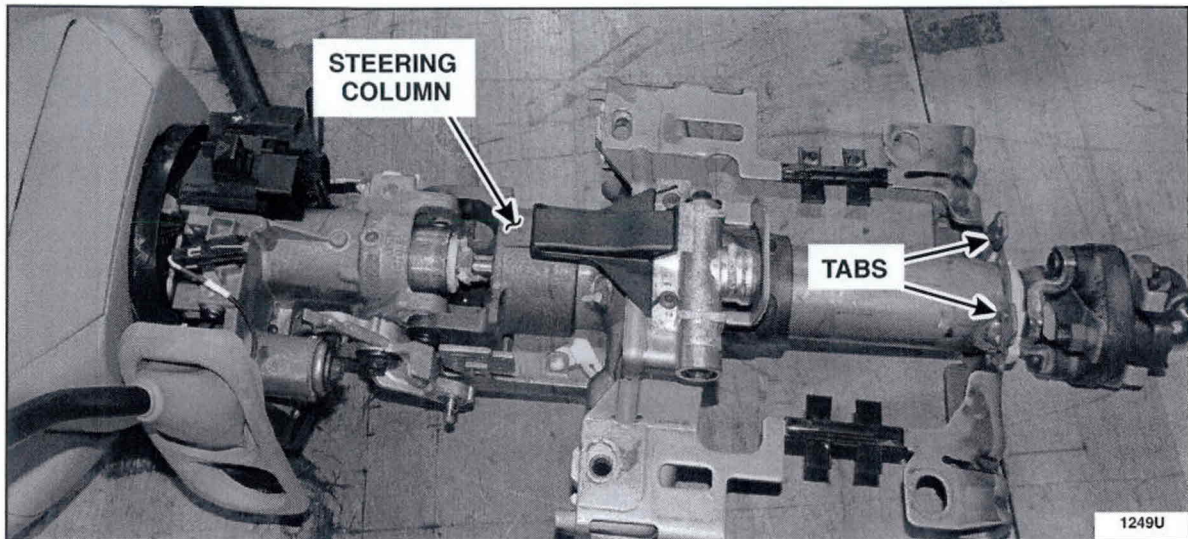

FIGURE 7
4. Locate the two tabs located at the forward end and top of the steering column. See Figure 7.